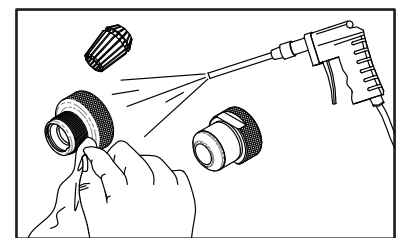
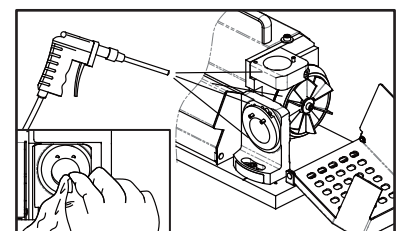

Fig. 15-4
Fig. 15-5
- ① Unplug the power cord and make sure the power is off.
- ② Disassemble the chuck set after use.
- ③ Use the air press gun to clean the scraps and dust out of all grinding shelves and all the accessories. (Fig. 15-4) (Fig. 15-5)
- ④ Use clean cloth to clean each contact port and all the accessories, then put them back in order. (Fig. 15-4) (Fig. 15-5)